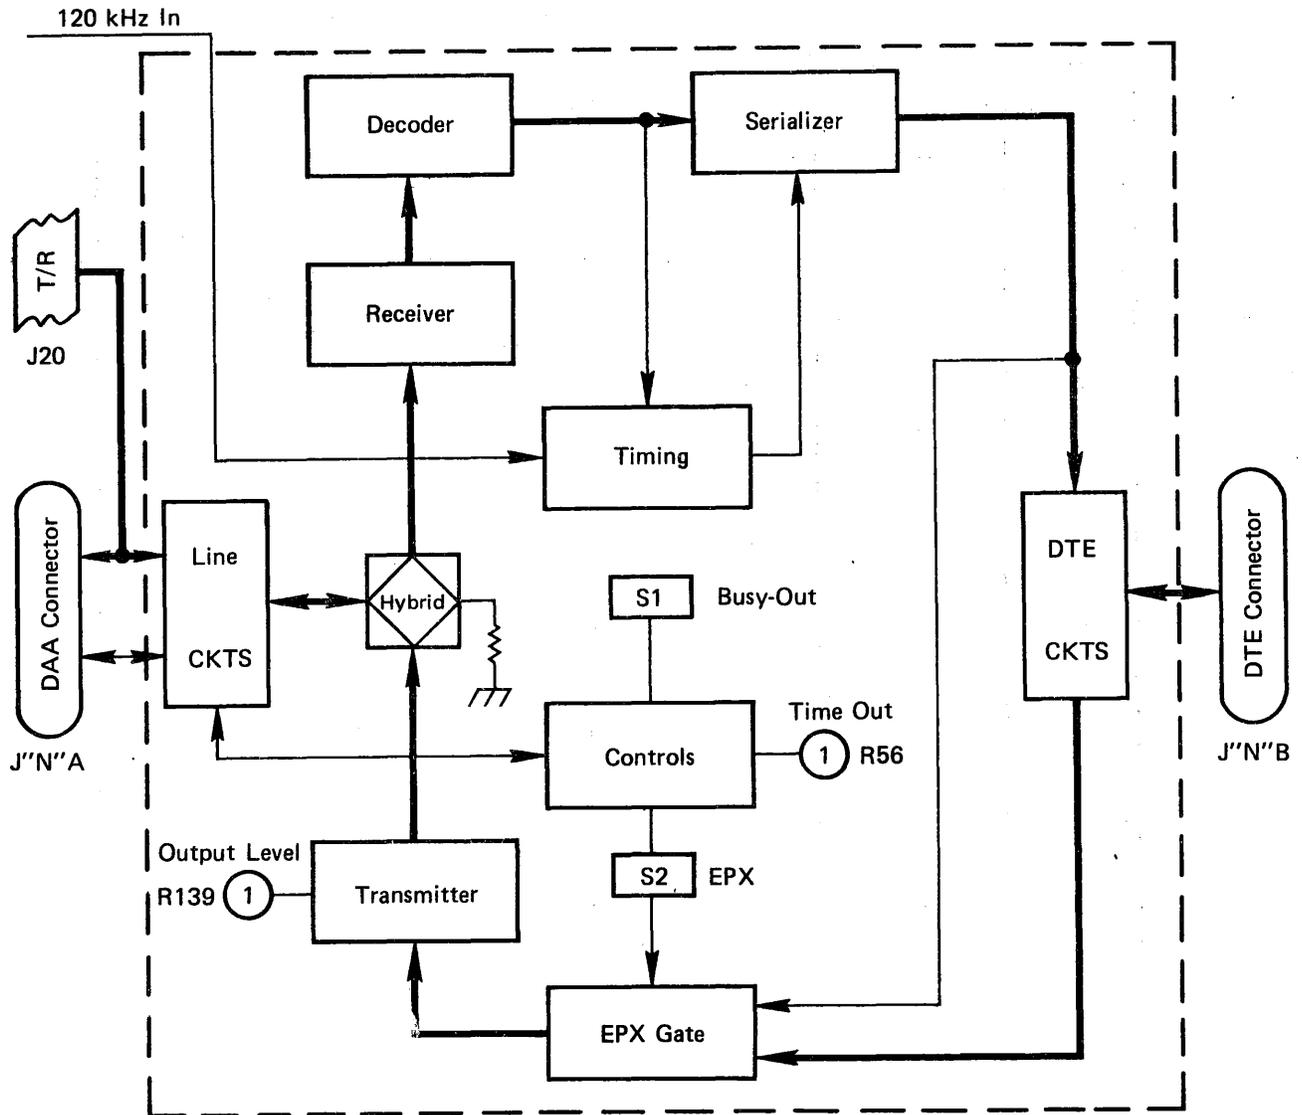

Figure 5-2. Channel Board Block Diagram
5.03 Figure 5-2 shows a block diagram of the channel board identifying the user accessible controls shown in figure 2-1. This board provides all the signaling functions for two-way (half duplex) communication between remote terminals over phone lines, and interfaced central processors. DTMF tone inputs from the terminals are received, converted to ASCII characters and transmitted to the processor. A switch setting also permits the characters to be repeated back to the terminals in FSK form. Serial ASCII data from the computer is received by the modem via the DTE interface; the data is transmitted to the remote terminal (via the phone lines) using FSK modulation. The channel establishment and handshaking routines performed conform with EIA Standard RS-232-C for the DTE side, and a type 103 modem for the phone line side. The character conversion code from the DTMF digits entered is given in table 5-1. Further explanations of the operation of the blocks shown in figure 5-2 are given below.